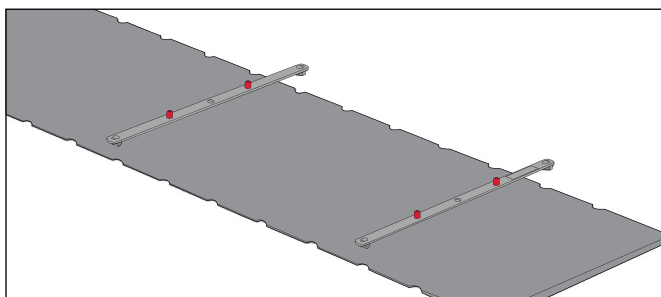

FIG. 1
1. Insert the ends of the Locating Bars into the appropriate Varian Exact®-compatible index notches on the couch top or device, spaced 700 mm (typically 5 notches) apart, and snap the Locating Bars into place. (Fig. 1)